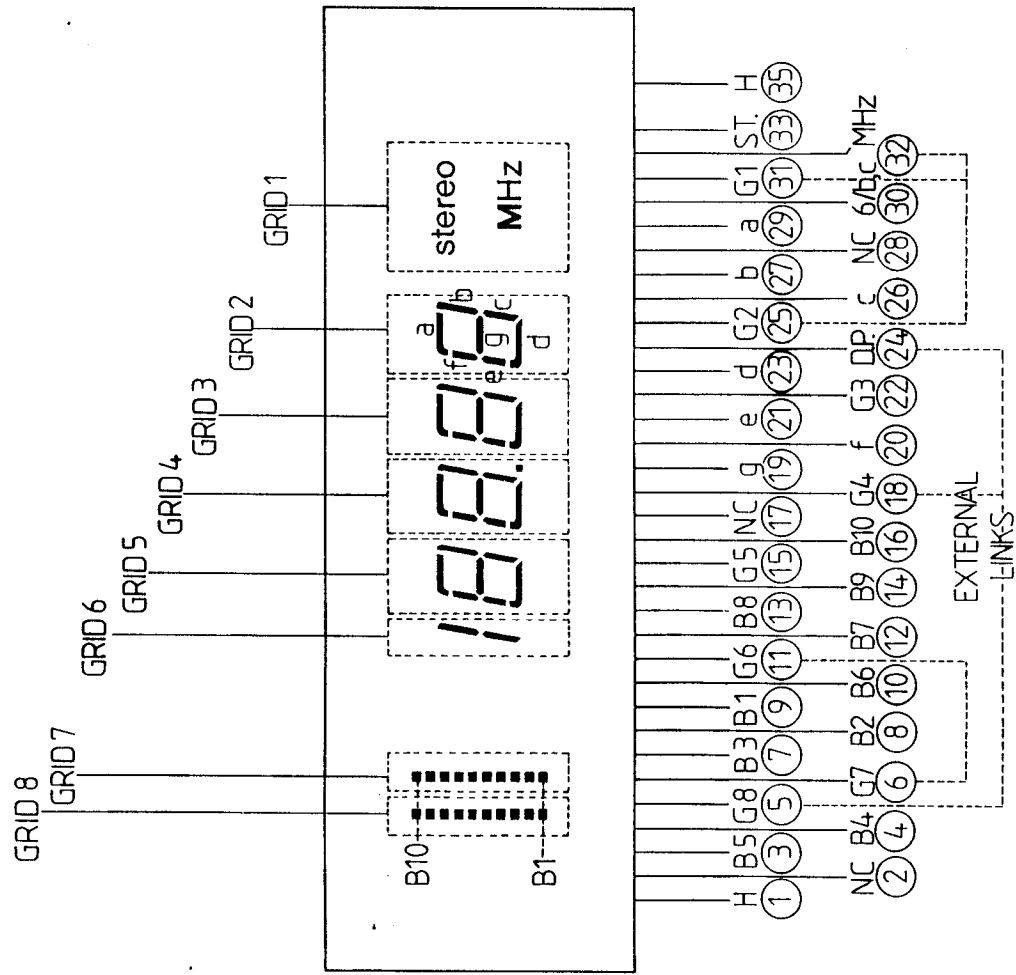

Fig. 4a
- (i) Dry joint in display soldering (see Fig. 4a).